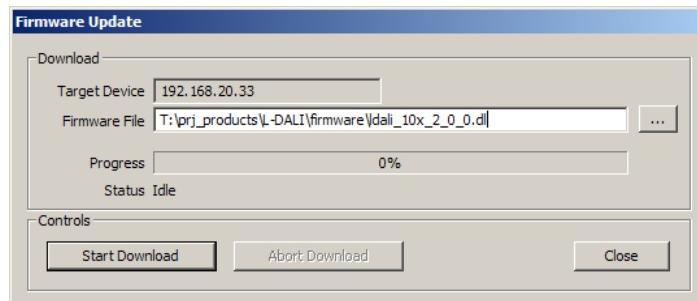

Figure 162: Firmware Update dialog of the LINX-100/200 Configurator.
6. This opens the Firmware Update dialog as shown in Figure 162. Click on the button “...” and select the firmware image (“ldali_10x_2_0_0.dll”).